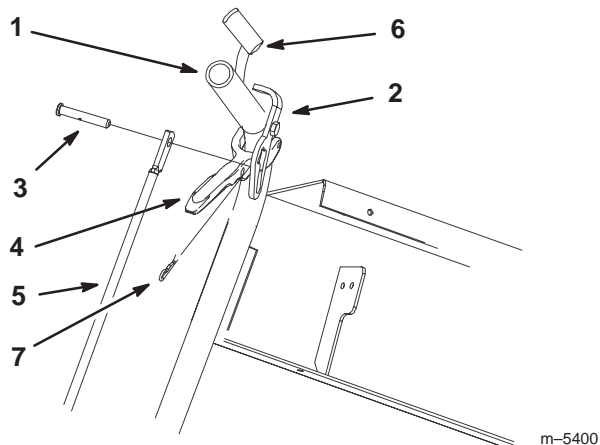

Figure 4
1. Install control rod to drive lever and neutral lock using a clevis pin (Fig. 4).
2. Install hairpin cotter between drive lever and neutral lock and into clevis pin (Fig. 4).